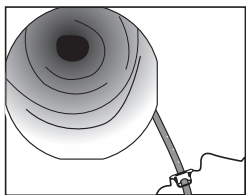
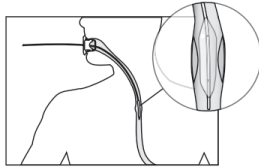

Fig. 5 Pass an endoscope into the esophagus
Fig. 11 Perform pre-dilate if necessary.
4. Insert Guidewire and Place Through Stricture (Refer to Fig.5 to Fig.11)